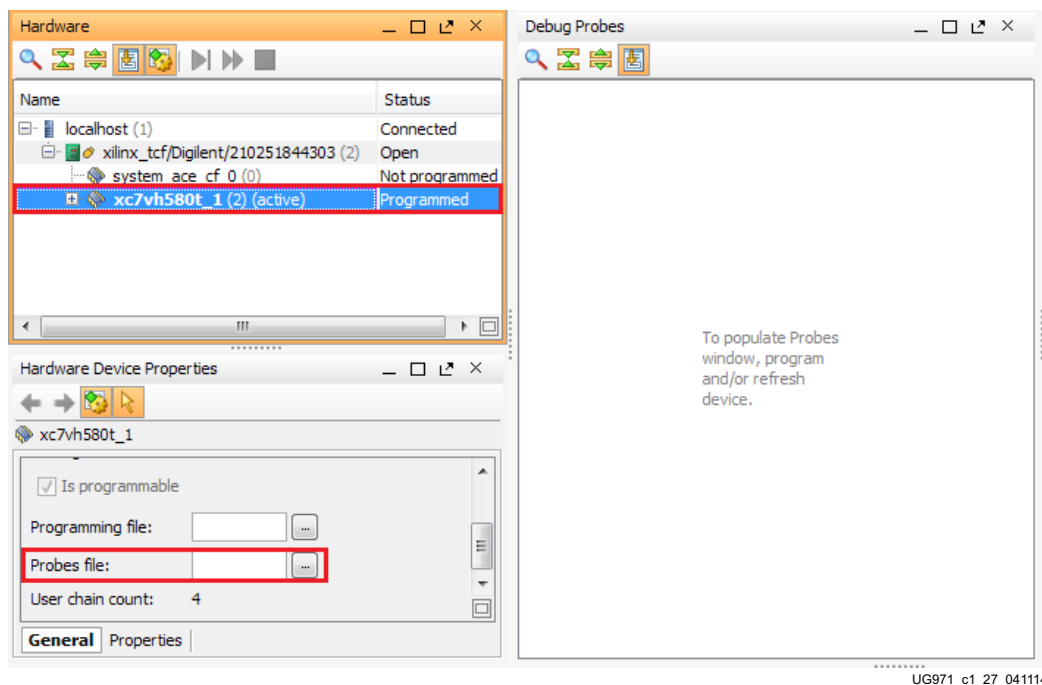

Figure 1-27: Adding the Probes File
1. The Vivado Design Suite Hardware window shows the System ACE SD Controller and the XC7VH580T devices. The XC7VH580T device is reported as programmed. In the Hardware Device Properties window, enter the file path to the Q300 Probes file (`vc7222_ibert_q300_debug_nets.ltx`) in the extracted IBERT files from the SD card (Figure 1-27).